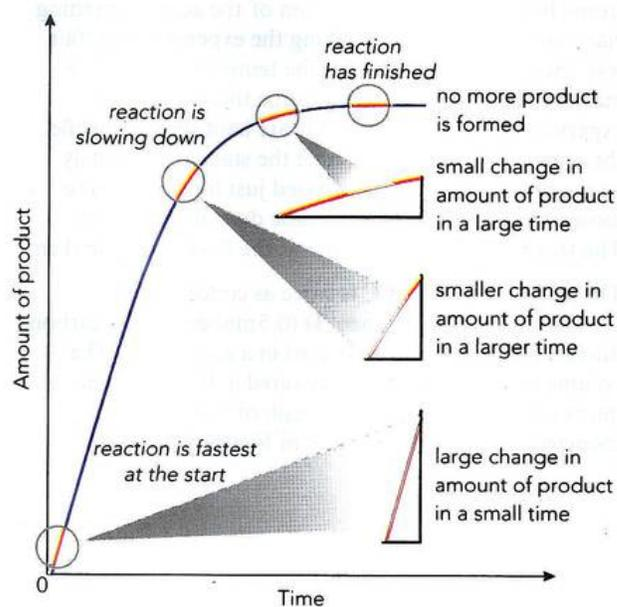

Figure 8.8: A chemical reaction is fastest at the start. It slows down as the reactants are used up.
- 1 The reaction is fastest at the start. This is shown by the steepness of the curves over the first few minutes. Curve B is steeper than curve A. This means that gas (CO_2) is being produced faster with sample B. The sample with smaller chips, with a greater surface area, reacts faster. Beyond this part of the graph, both reactions slow down as the reactants are used up (Figure 8.8).